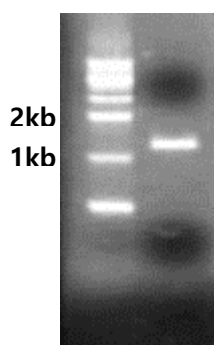

Figure 2. Representative data of amplified HBV RT gene. Prepared HBV DNA from patients sera were used as template. The product size is approximately 1.2 kb.
- Identify the PCR products (HBV RT domain) on 1% agarose gel by electrophoresis (Figure 2) and purify with Gel/PCR DNA Extraction kit according to the manufacturer's protocol (final elution volume is 30 µl of TE buffer).